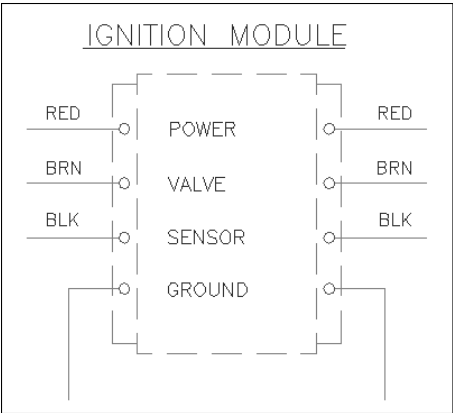

**Figure 13-29:** The text on the right was mirrored with MIRRTEXT set to 0.
- 8. Repeat the mirror operation using the same instructions as in Step 5. This time the command mirrors the objects, but the text reads properly, as shown in Figure 13-29.